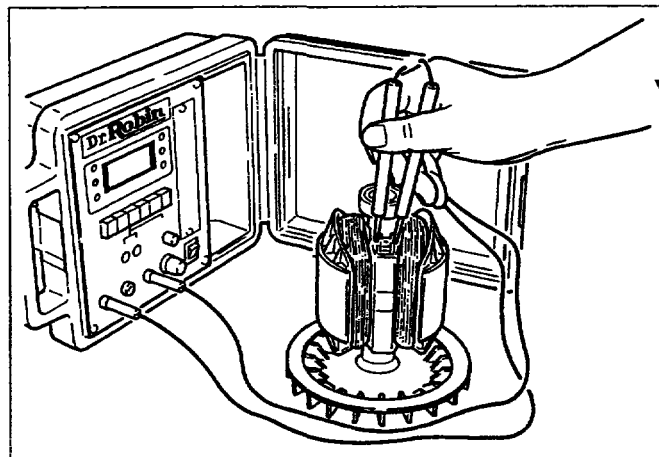

Fig. 11-3
- 2) Measure the resistance of field coil with a circuit tester. (See Fig. 11-3.)